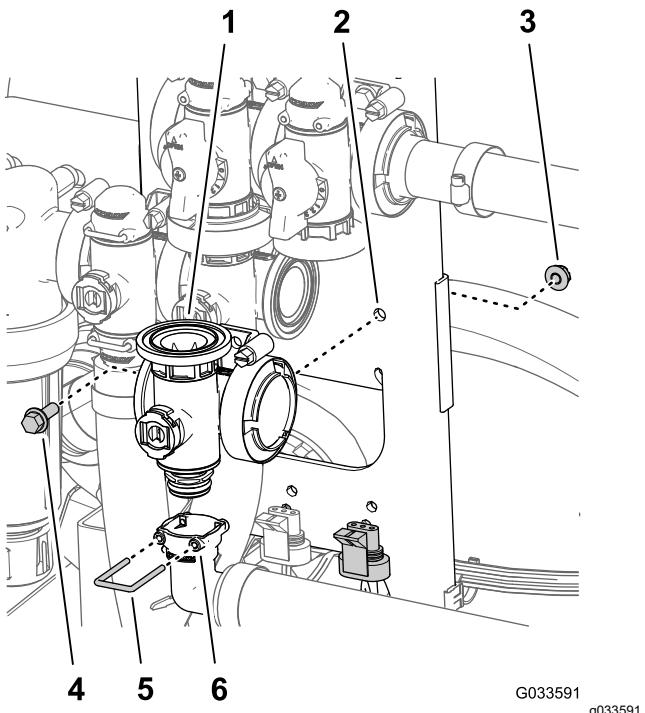

Figure 130
5. Align the socket of the 90° outlet fitting onto the coupling fitting at the bottom of the manifold for the master-boom valve (Figure 130).
6. Secure the outlet fitting coupling fitting by inserting a retainer into the socket of the outlet fitting (Figure 130).